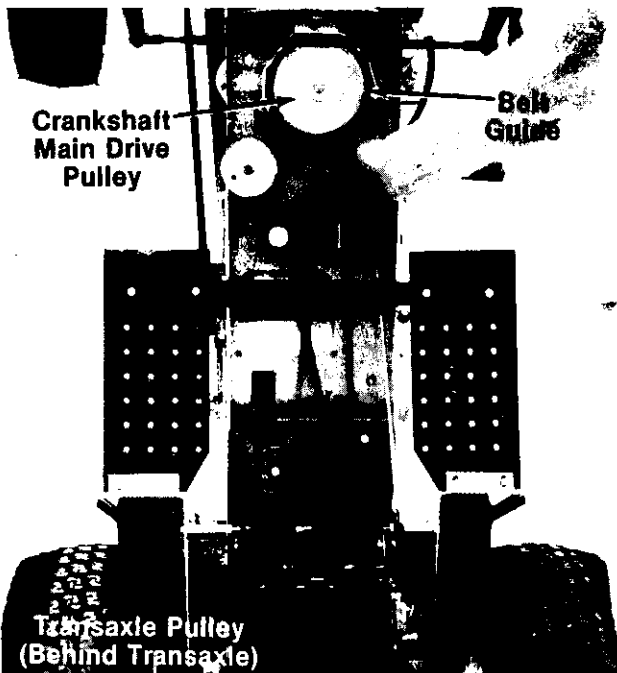

FIGURE 35.
4. Push back belt guide and slip the belt over the drive pulley. See figure 35.